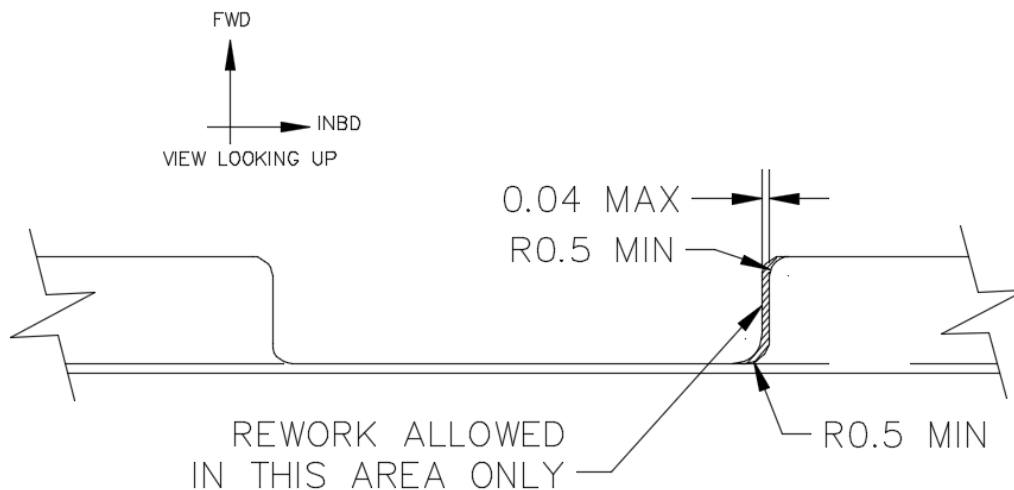

Figure 9 – Allowable rework to Front Spar flange(s) edge
9. If there is no clearance between the Wing Strut Fitting and the Front Spar flange(s), remove material from the edge of the Front Spar flange(s) by blending as shown in Figure 9.